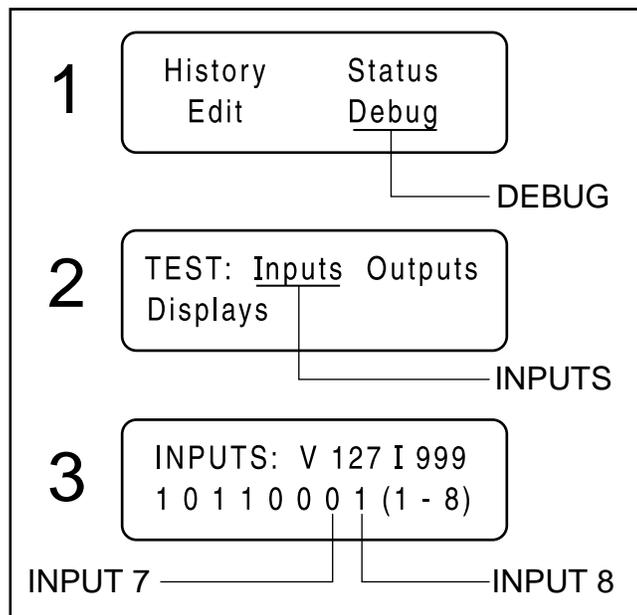

Figure 2. The Home Page, Debug and Input Screens
2. Press the right arrow key until “Debug” flashes. Press “Enter” and the following screen will appear. See Figure 2, Screen 2.